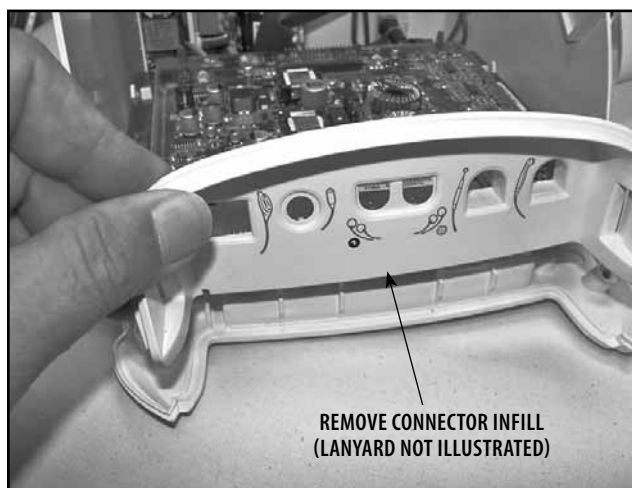

FIGURE 6.34
2. Remove Connector Infill and Lanyard. Lay aside. See Figure 6.34.
2. Re-install the Connector Infill and Lanyard. Refer to Figure 6.34.